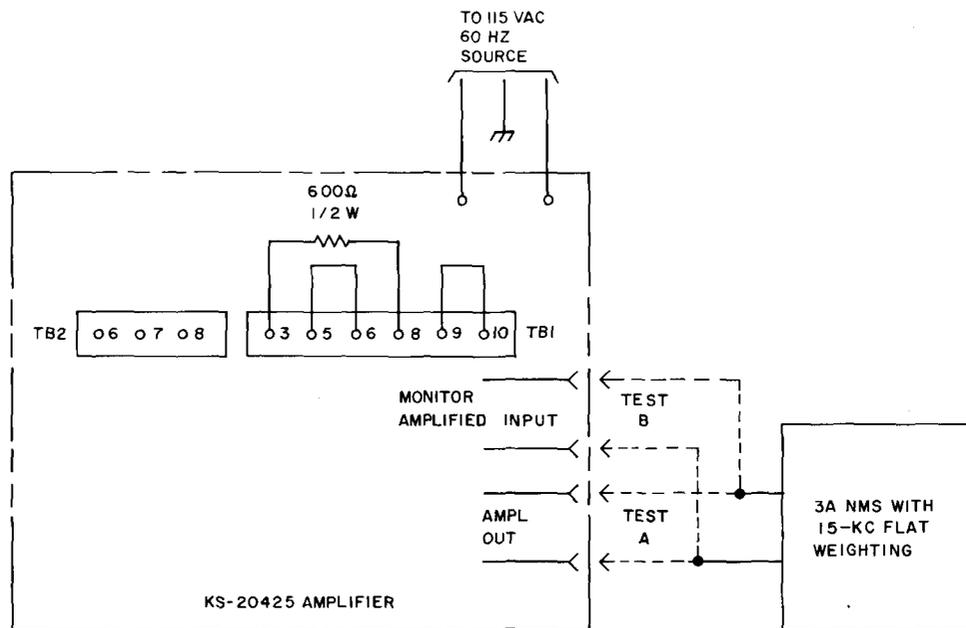

Fig. 2—Setup for Noise Test for KS-20425 Amplifier System
- 1 Connect the equipment as shown in Fig. 2 with the PWR switch of the amplifier on OFF.
9	Connect the NMS to AMPL OUT (Test A) in Fig. 2.
13	Connect the NMS to MONITOR AMPL OUT (Test B) in Fig. 2.